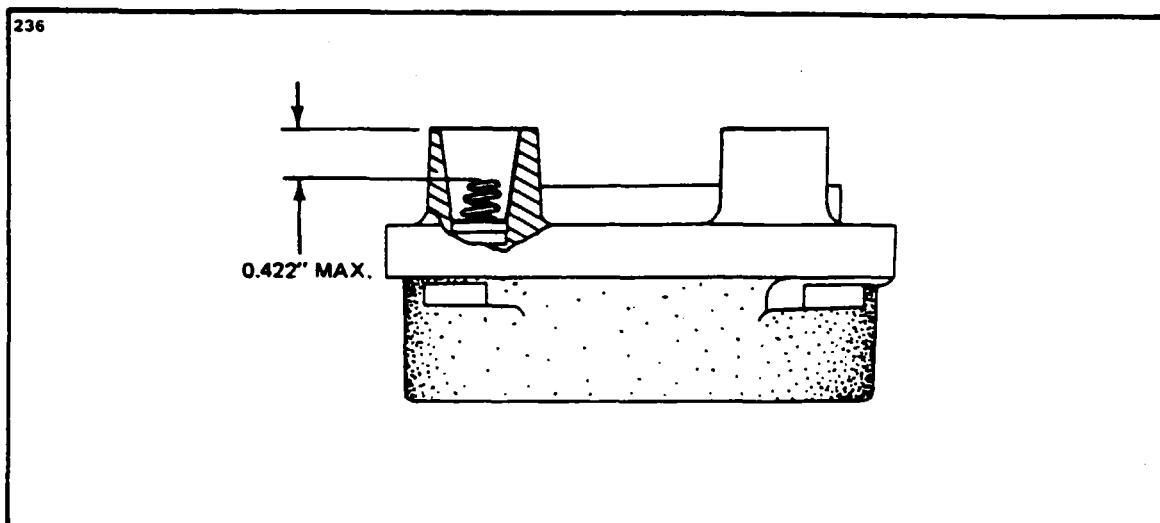

Figure 8-9. Height of Spring in Distributor Block Tower.
- d. Check height of contact springs (0.422 maximum from top of block tower to spring). (Refer to Figure 8-9.)